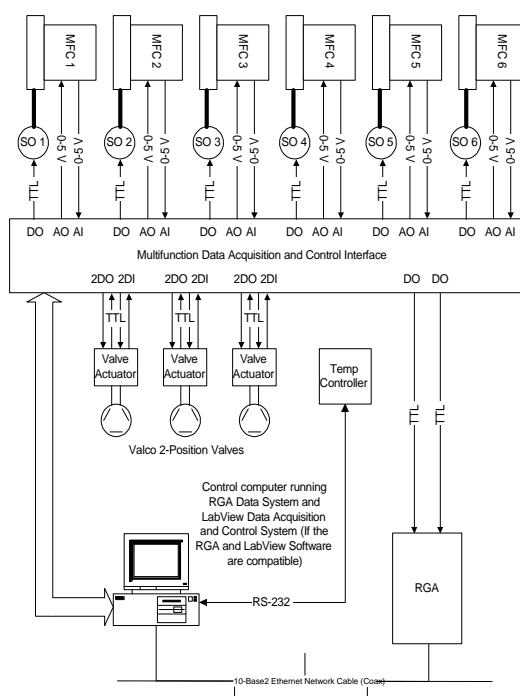

Figure 1 Diagram of the catalyst screening system
The block diagram in Figure 1 shows the mass spectrometer (MS) catalysis gas monitoring system. There are six different input gases, each with its own mass flow controller and shutoff valve. The mass flow is set, checked and read by the computer through a National Instruments I/O board. The shutoff valves are actuated by relay switches. The temperature of the catalysis chamber is monitored and set through a Eurotherm 808-B temperature programmer interfaced to the computer by a RS-232 serial link. Three two-position, heated Valco valves are used in this system. One valve controls an input gas volume that can be pulsed on and off during the temperature program. The other two valves control whether the mass spectrometer is monitoring the input or output gas stream from the catalysis chamber.